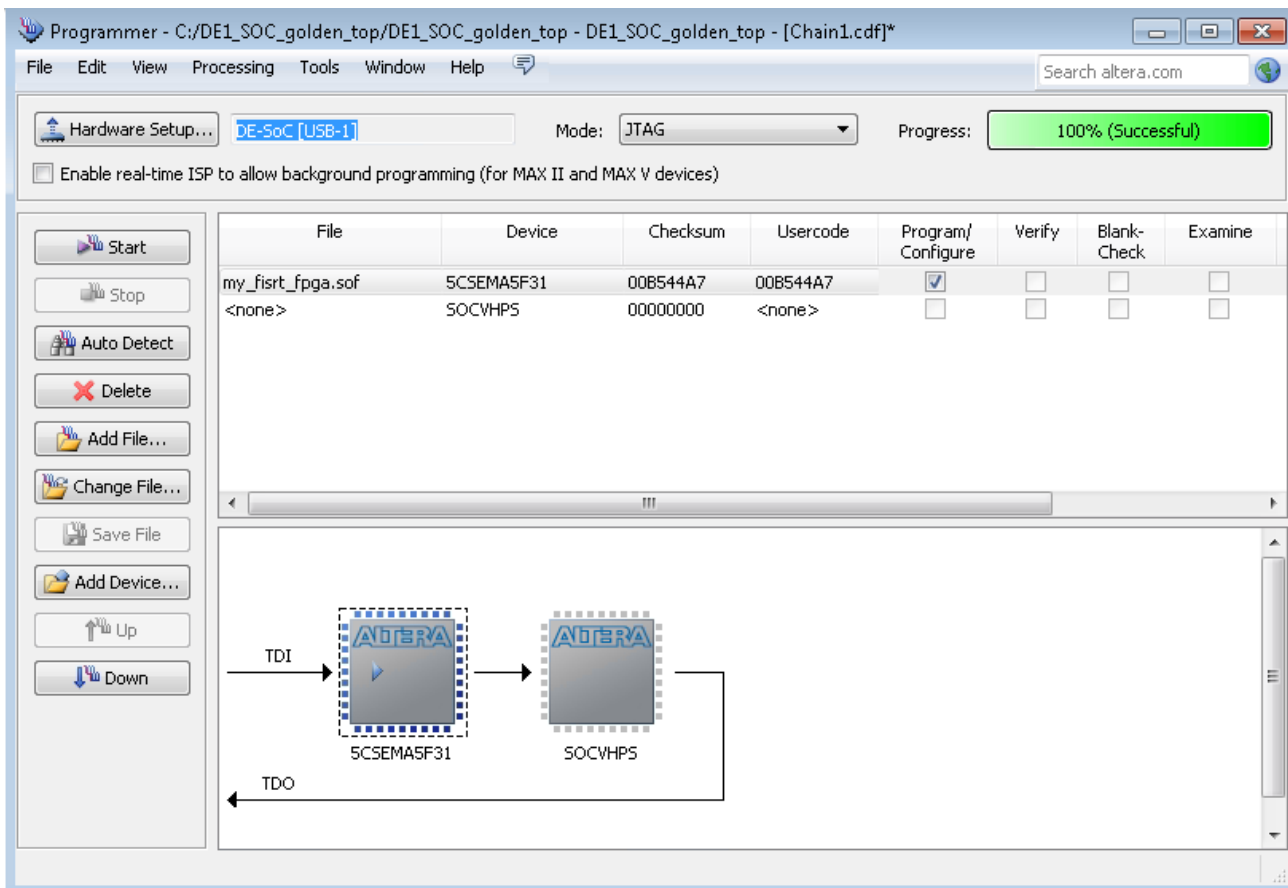

Figure 4-8 Downloading Complete
9. Select the my_first_fpga.sof file from the project directory (see **Figure 4-8**) and click Start to program .sof file into FPGA.